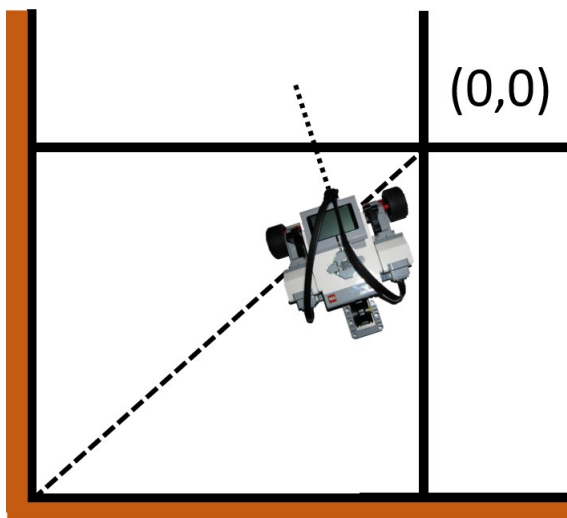
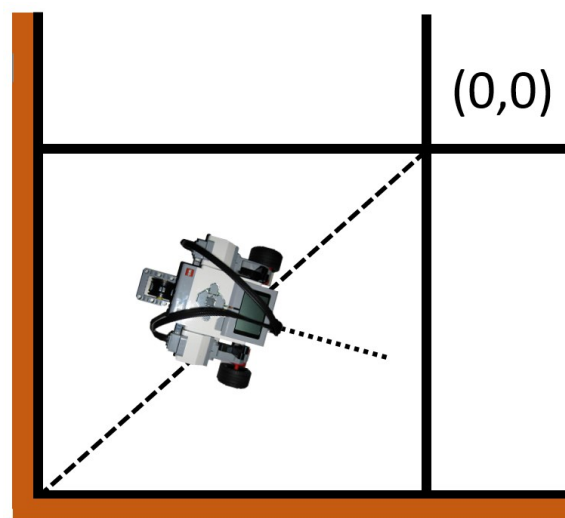

Figure 1. Robot's Starting Orientation A.
Figure 2. Robot's Starting Orientation B.
As shown in **Figure 1**, the robot is placed along the 45° line (thick dotted) inside the bottom-left tile of the 4x4 field grid. The **brown-colored** walls represent wooden walls used for the **ultrasonic localization**. Please note that the robot could be placed in **ANY ORIENTATION** and **POSITION** along this 45° line. For example, **Figure 2** shows another orientation and position of the robot's starting position compared to that in **Figure 1**.
After the measurement is complete, the robot should then move to the (0,0) point as shown in **Figure 1** and **Figure 2**. Once **light localization** is performed at this point, two error quantities are measured by the TA: the **Euclidean distance error** ϵ between the robot's actual position (X_F, Y_F) and the (0,0) point, and the **orientation error** with respect to the 0° axis.
1. Place the robot in a tile corner along the 45° line (**Figure 1**), where two walls are present.
1. Do I need to implement my robot's localization routines using the same 0° axis shown in Figure 1 and Figure 2 (that is, along +y axis)?